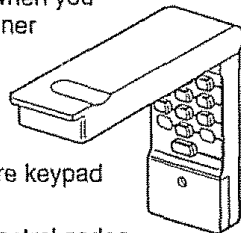

Figure 1
- Lift the cover to access the keypad, Figure 1. Decide on a 4-digit code using numbers from 0 to 9. You can use a number more than once (for example, 4, 0, 4, 1).